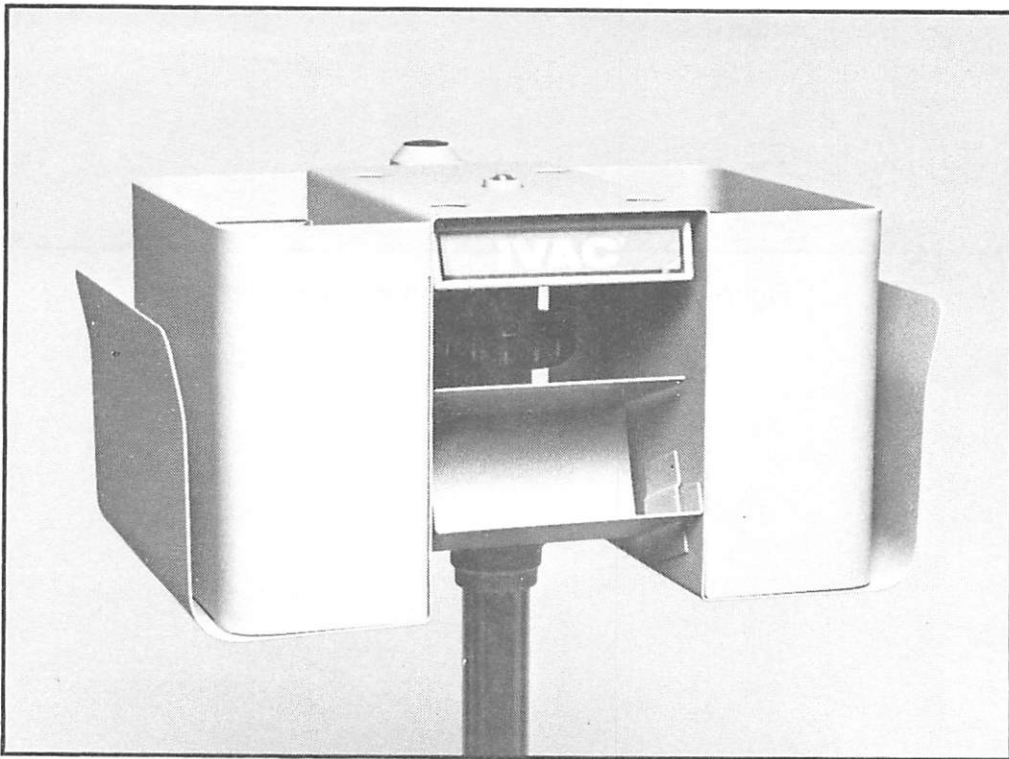

Figure 1-3. Accessory Holder -- Model 4010
- b. Accessory Holder - Model 4010 (figure 1-3). The accessory holder, which attaches to the IVAC Vital Sign Instrument Stand - Model 1020VS, is a convenient storage place for the cuff, probes, and probe covers when they are not in use.